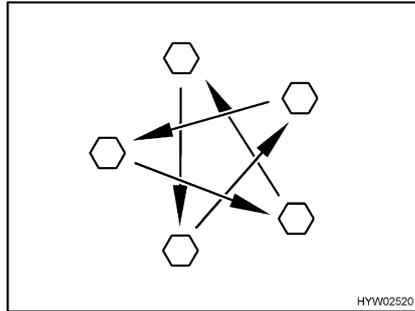

Fig. 171 Tighten the wheel nuts or wheel bolts cross-wise
- Check regularly that the wheel nuts or wheel bolts are firmly seated. Re-tighten the wheel nuts or wheel bolts of a changed wheel after 50 km (30 miles) (Fig. 171).
- When using new or newly painted rims, re-tighten the wheel nuts or wheel bolts once again after approx. 1,000 to 5,000 km (600 miles to 3,000 miles) (Fig. 171).